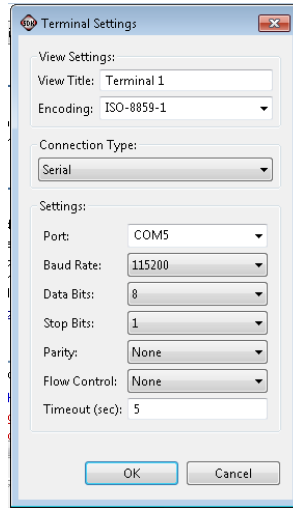

Figure 241: Terminal Settings
- d) Change the Baud Rate to 115200 (Figure 241).